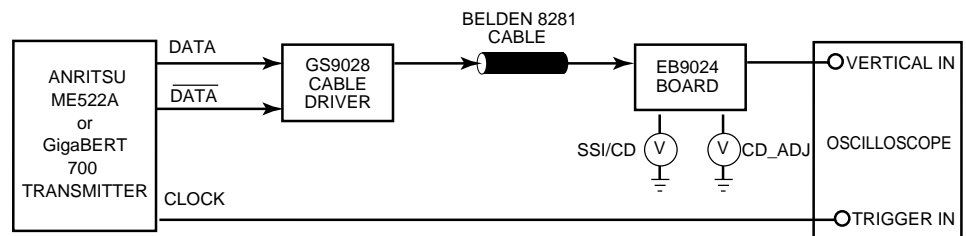

Figure 2-2: Test Setup for Figure 4-2, Figure 4-3, Figure 4-4, Figure 4-5, Figure 4-8, and Figure .
- Evaluated using test setup Figure 2-2.